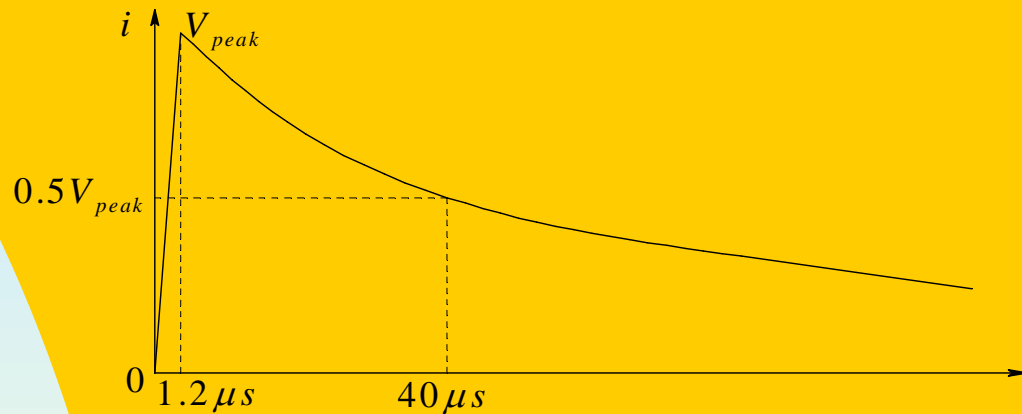

Fig. 14-6 Standard Voltage Impulse Wave to define BIL.
- This lightning impulse wave, as shown in Fig. 14-6, is assumed to rise to its peak value, and tapers off exponentially to one-half the peak value as shown.